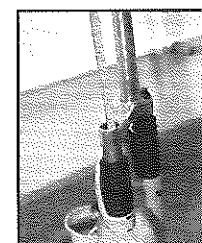

Fig. 51
3. The MRD Lok-Out shaft locates the compression piston higher in the chamber than a normal TPC compression rod, so oil must be added for proper function of the Lok-Out. Proper oil height can be measured with a simple dip stick which you can put down into the fork leg (Fig. 51). The proper oil height, measured from the top of the left leg and extending down into the leg, is between 3.75-4.25 inches (95-105mm). Use Maxima SAE 5-weight oil only.